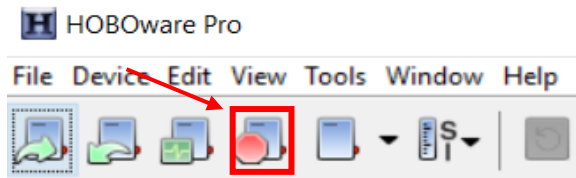

Figure A.4.18: HOBOWare “Stop Logging” Button
2. If satisfied with the accuracy of the measurements, click the “Stop Logging” button on the top left corner of the screen (Figure A.4.18).